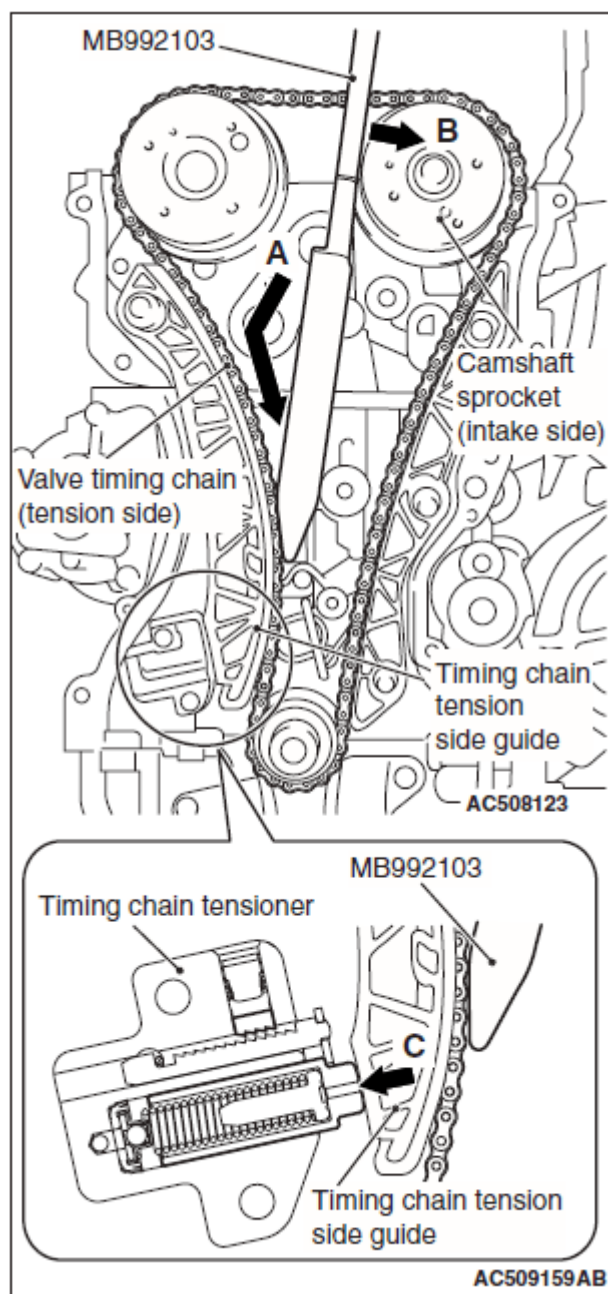

Fig. 39: Removing Flat-Tipped Precision Screwdriver Unlocking Timing Chain Tensioner
2. With the timing chain tensioner unlocked, insert special tool MB992103 inside the timing chain case assembly along the tension side of the timing chain until the insertion guide line aligns with the upper surface of the timing chain case assembly (**Fig. 39.**)
NOTE: With the timing chain tensioner unlocked, insert the special tool MB992103 along the tension side of the timing chain, according to the special tool MB992103 top shape. The special tool MB992103 can be inserted smoothly to the position where the special tool MB992103 insertion guide line aligns with the timing chain case assembly top surface (**Fig. 39.**), and the spread timing chain tension side guide can be held (**Fig. 39.**)